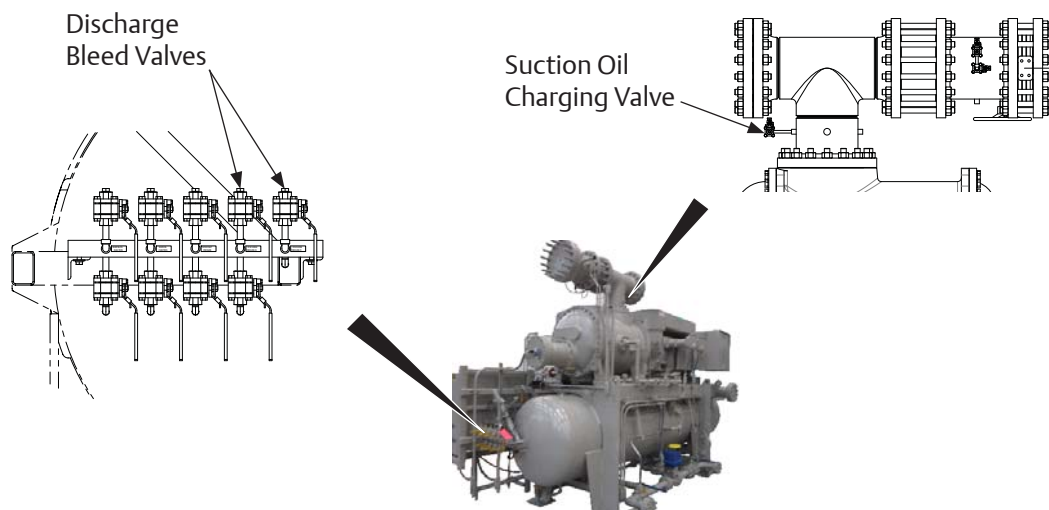

Figure 4-9. Suction Oil Charging Valve and Discharge Bleed Valve
5. Slowly open suction oil charging valve to depressurize compressor unit to atmosphere, see Figure 4-9. Keep valve in open position.